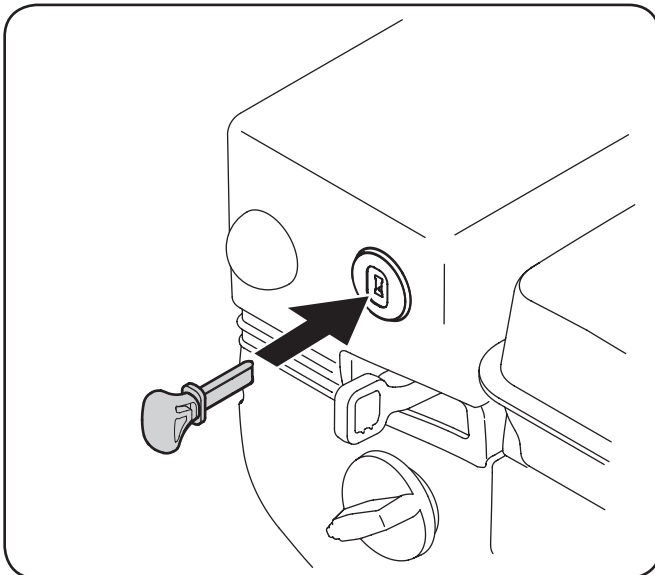

Figure 5-1
2. Insert key fully into slot, Fig. 5-1. Make sure it snaps into place. **DO NOT** turn key. The engine cannot start unless the key is inserted into ignition switch.
1. Insert key fully into slot, Figure 5-1. Make sure it snaps into place. **DO NOT** turn key. The engine cannot start unless the key is inserted into ignition switch.
4. Push primer three (3) times, making sure to cover vent hole when pushing. If engine is warm, push primer only once. Always cover vent hole when pushing. Cool weather may require priming to be repeated.